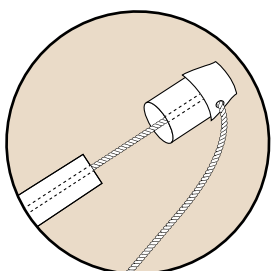

Fig 5,
8. Remove the sleeving from pole, release the halyard and pass through the cone. (See Fig 5) Place the cone onto the top of the pole, keeping the halyard tension tight.